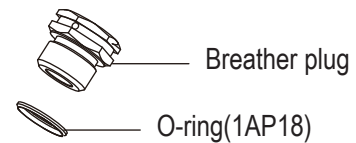

Fig.10
(2) Assembly
- a. Attach the O-ring to the breather.(Fig.10)